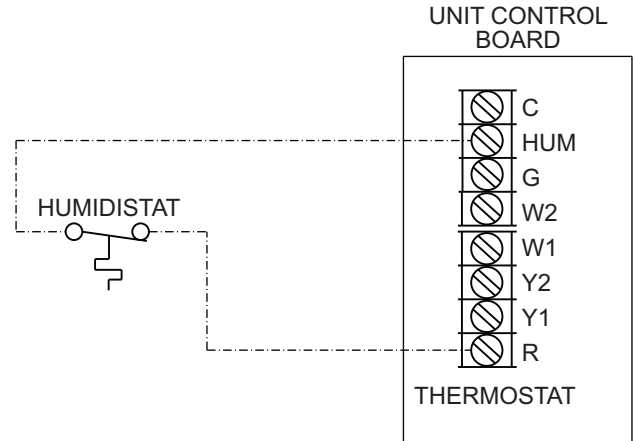

Fig. 41 — Humidistat Connections to UCB
3. Connect one of the leads from the 2-conductor cable to the HUM terminal on the UCB (Unit Control Board). Connect the other lead to the R terminal on the UCB. See Fig. 41.